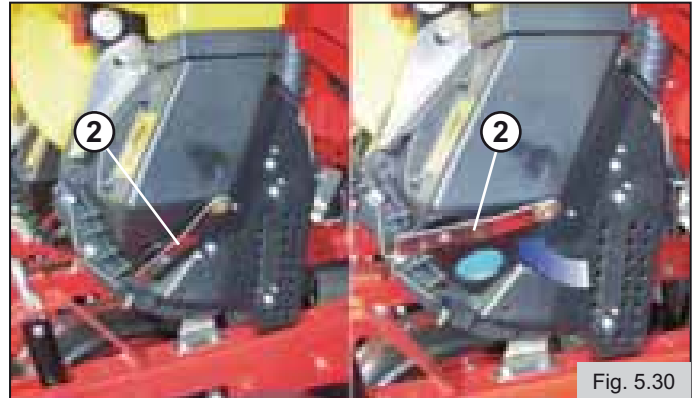

Fig. 5.30
- Open the distributor cap, 2, in (Fig.5.30) in order to discharge the residual seed from the Magicsem seed metering device.